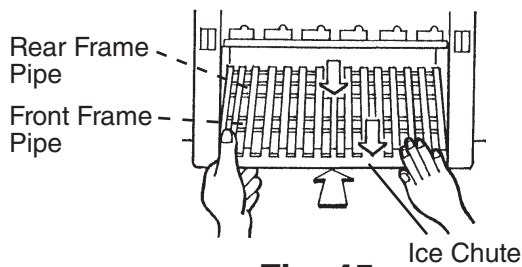

**Fig. 43**
- 11) Refit the 2 caps in their correct positions. Make sure the reducing pipe is in place in the center. See Fig. 43.